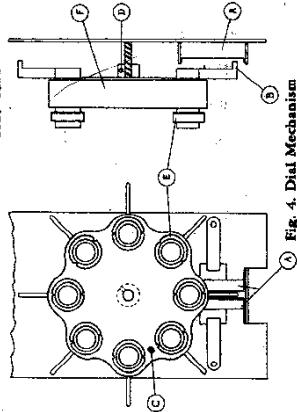

Fig. 4. Dial Mechanism
Automatic tuning of the receiver is accomplished by the mechanism as shown in Fig. 4. By pressing in a station button and rotating it to the lower part of the assembly, the button arm (B) will engage between the two gates (A) allowing the set to be mechanically tuned to a pre-set station at this point. When the station button is not depressed, the arm (B) should clear the gates by 1/8 in. To adjust this clearance, merely loosen the two set screws (D) and slide the assembly (F) in the proper direction on the gang condenser drive shaft; then tighten set screws.